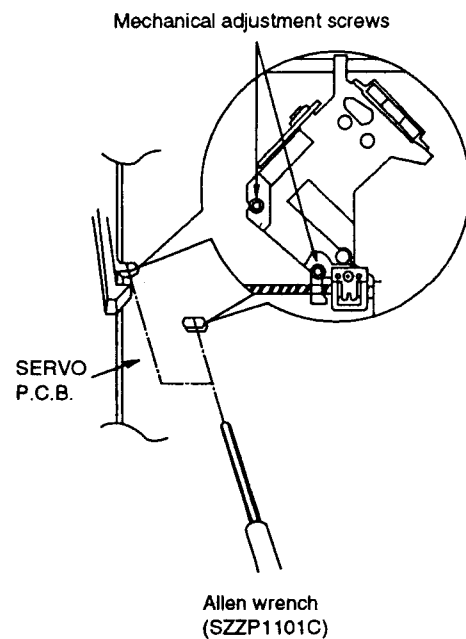

Fig.2
4. Alternately adjust the two mechanical adjusting screws with the 2.0mm allen wrench (SZZP1101C) until the RF signal amplitude variation on the oscilloscope is minimized. (Refer to Fig. 2 on page 22)